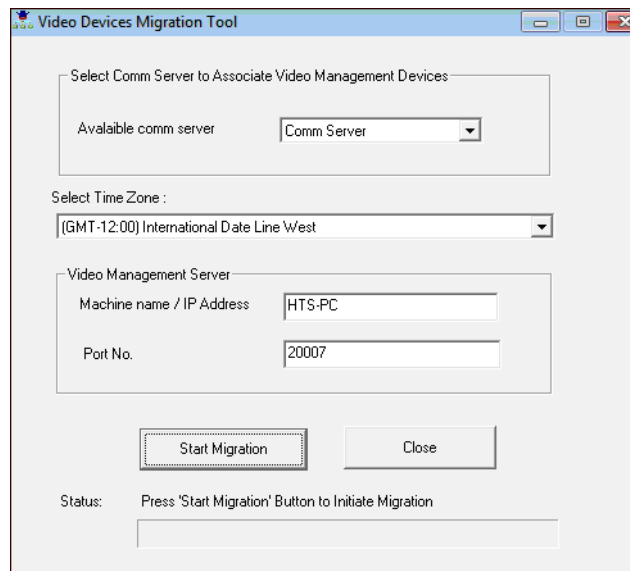

Figure 2-27 Video Devices Migration Tool
4. Type your user **Name** and **Password** (WIN-PAK user credentials) to open the tool. **Figure 2-27** appears listing all the communication servers available in WIN-PAK.